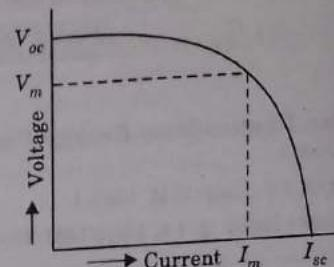

Fig. 1.10.1. Voltage-current ($V-I$) characteristic of a solar cell.
1. The electrical characteristics of a solar cell are expressed by the voltage current ($V-I$) curves plotted under a given illumination and temperature conditions as shown in Fig. 1.10.1.
2. In Fig. 1.10.1, the maximum useful power of the cell is represented by the rectangle with the largest area.
5. Cell quality is maximum when the value of 'fill factor' approaches unity, where the fill factor (FF) is expressed as